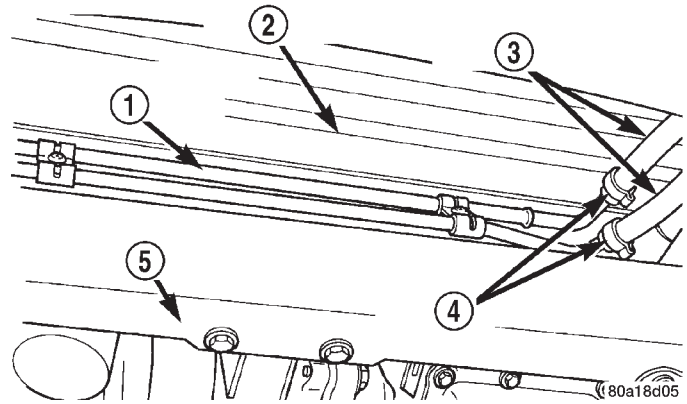

Fig. 16 Hose Clamps At Power Steering Fluid Cooler
(1) Raise vehicle using a frame contact type hoist or supported as required using jack stands. See Hoisting in the Lubrication And Maintenance group of this service manual for the required hoisting or jacking procedure to be used for this vehicle.
(2) Remove the hose clamps (Fig. 16) from the power steering fluid hoses. Drain power steering fluid from the hoses and the power steering fluid cooler.
(4) Remove the power steering fluid cooler and mounting brackets as an assembly (Fig. 16) from the radiator lower crossmember. It is removed by rolling
(3) Install the hose clamps on the power steering fluid hoses.
(4) Install power steering fluid hoses on the power steering fluid cooler. (Fig. 16). **Be sure hose clamps are installed on hose past the upset bead on the power steering oil cooler.**
(5) Using Crimper, Hose Clamp, Special Tool C-4124 properly crimp the clamps on the power steering fluid hoses at the power steering oil cooler.
(6) Lower the vehicle to a point where front tires are just off the ground.
(7) Start the engine and let run for a few seconds. Then turn the engine off.
(8) Add fluid if necessary. Repeat the above procedure until the fluid level remains constant after running the engine.
(9) Start the engine. Slowly turn the steering wheel right and left, lightly contacting the wheel stops.
(10) Add power steering fluid if necessary.
(11) Stop the engine. Check the fluid level and refill as required.
(12) If the fluid is extremely foamy, allow the vehicle to stand a few minutes and repeat the above procedure.